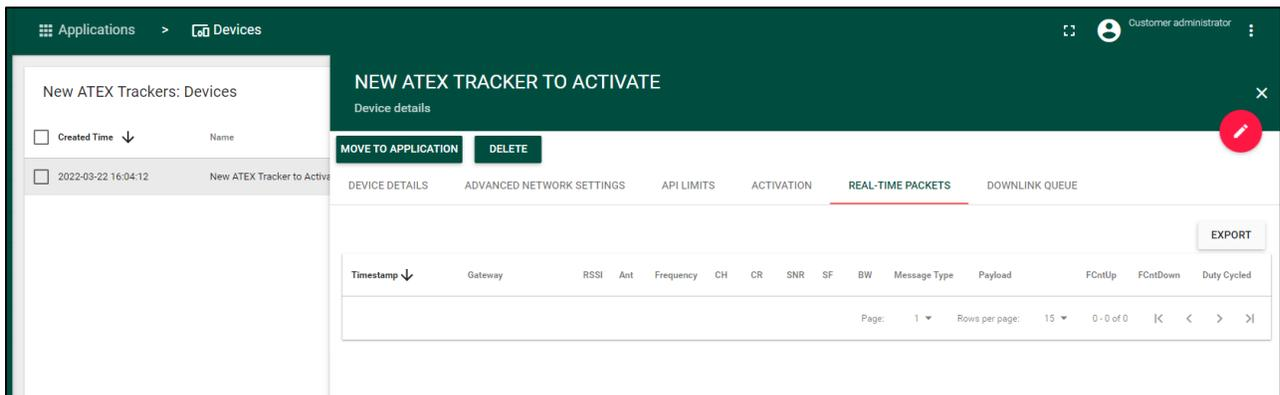

Figure 5: New ORCA *Real-Time Packets* View on the Network Server
5. In the Network Server, navigate to the *Real-Time Packets* tab of the newly-added ORCA which you are about to activate, as shown in Figure 5.